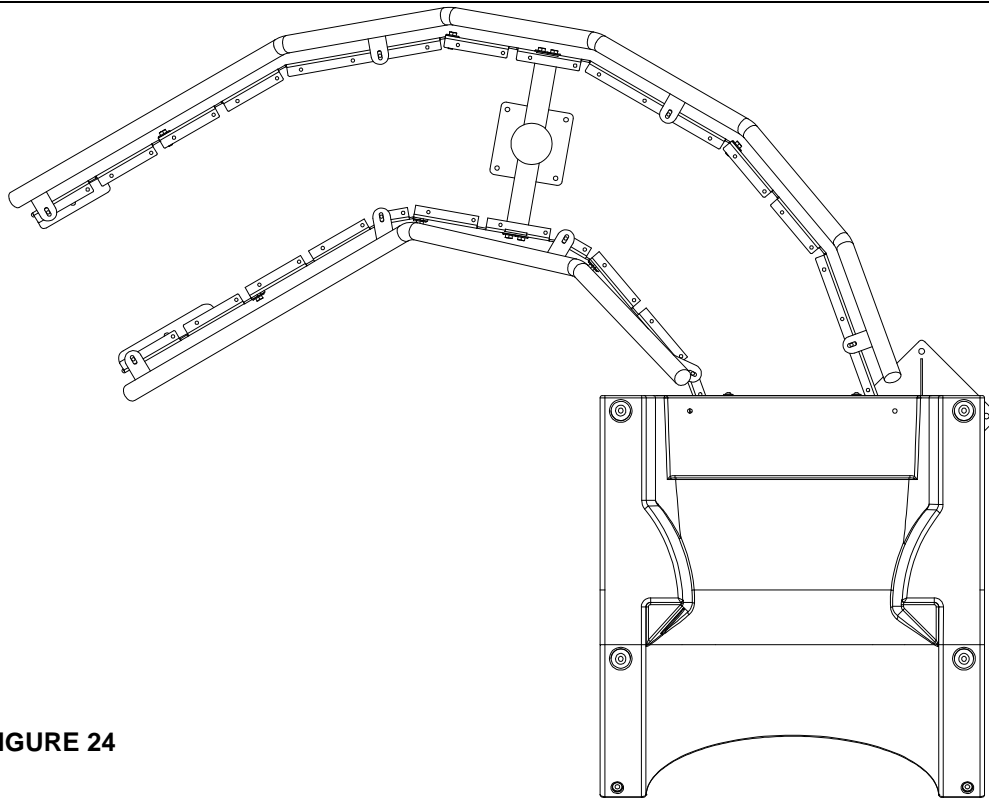

FIGURE 24
7) Position the inside and outside handrails in place, as shown in Figure 24. To ensure proper alignment of the assembly, temporarily install hardware through the mounting holes in the handrail brackets and the stair brackets.